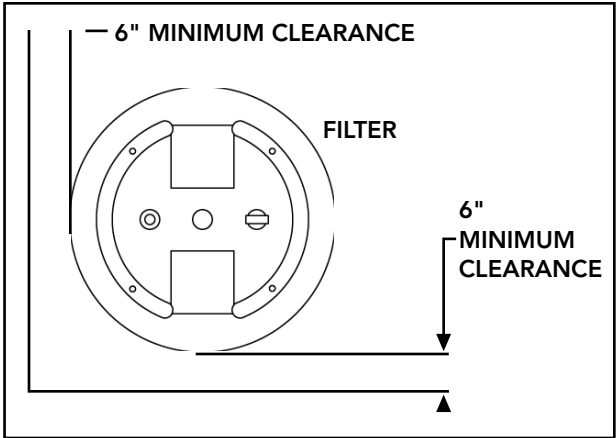

Figure 2- Filter Location
3. Install electrical controls at least five (5) feet from the filter. This will allow enough room to stand away from the filter during start-up.
4. Allow sufficient clearance around the filter to permit a visual inspection of the clamp ring (see Fig. 2).